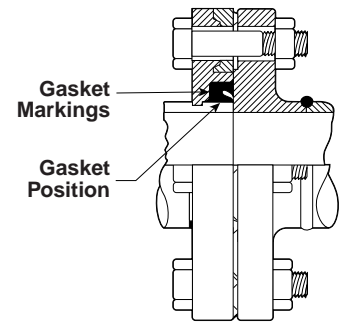

Figure 2
**3.** Install the gasket onto the pipe end. Make sure the gasket is properly positioned, as shown in Figure 2 below. **NOTE:** The markings on the outside of the gasket must face the Style 441 flange adapter.